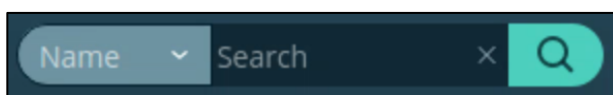

Figure 25. Dashboard Tab: Sensor Search Menu and Field
1. Select the item (**Name**, **MAC**, or **IP**) you prefer to search for from the **Search** menu on the far left of the **Search** mechanism. Searching by **Name** is the default option. See Figure 25. Dashboard Tab: Sensor Search Menu and Field.